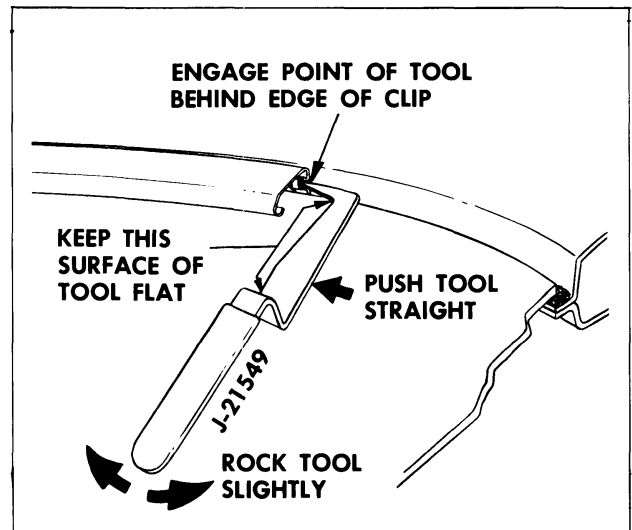

Fig. 11-4 Disengaging Molding From Clip
The windshield reveal moldings may be removed in sequence as listed, using reveal molding clip disengagement tool, J-21549 (Fig. 11-4).
4. Remove windshield reveal moldings as follows: Use reveal molding clip disengagement tool, J-21549 (Fig. 11-4). Remove upper reveal moldings first. Next, disengage side reveal moldings and remove lower reveal molding.
4. Remove windshield reveal moldings as follows: Use reveal molding clip disengagement tool, J-21549 (Fig. 11-4). Remove upper reveal molding first. Next, disengage side reveal moldings and remove lower reveal molding.